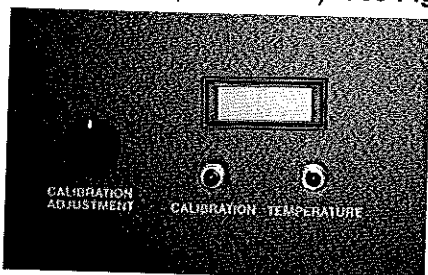

Figure 2
- A. The digital display meter shows grain moisture constantly and should read approximately 6% when sensor is in open air (no grain passing over sensor). See **Figure 2**.
- B. The Push Grain Temperature button and the display meter will show temperature of grain on the sensor. See **Figure 2**.
- C. Push calibration button and the display meter will show the amount added to or subtracted from the displayed moisture (-9.9 to +9.9). See **Figure 2**.